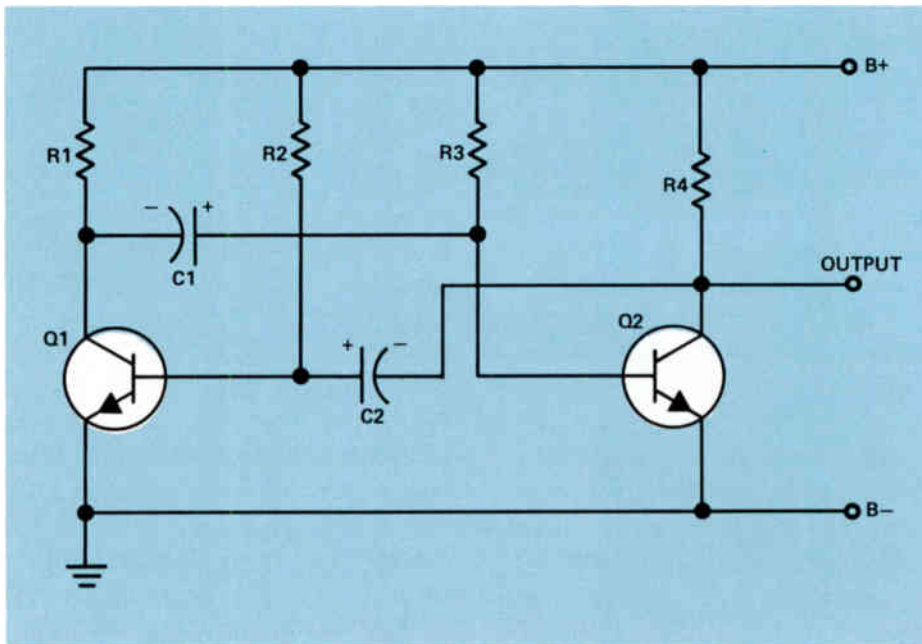
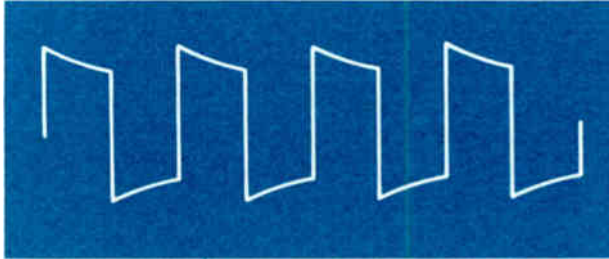
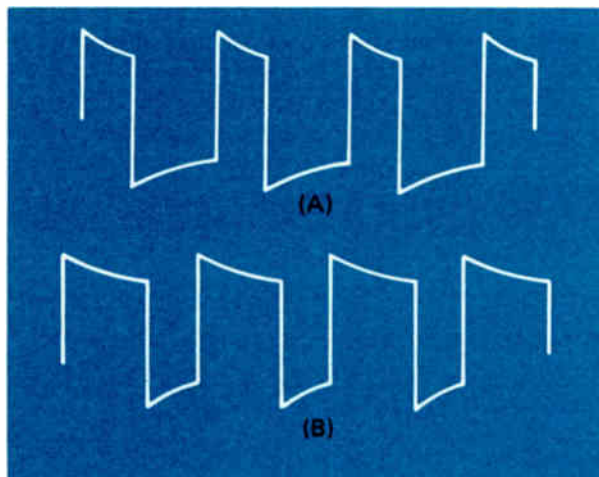

Figure 16. A collector-coupled multivibrator.
Figure 18. Output from a symmetrical multivibrator.
Figure 19. Output from an asymmetrical multivibrator with (A) having a shorter pulse width than (B).
A schematic diagram of a collector-coupled multivibrator is shown in Fig.16. The multivi-
In the circuit shown in Fig.16, one of the transistors will start conducting first or slightly faster than the other. Let's assume that Q1 starts conducting first. As the current through Q1 increases, the voltage drop across R1 will increase. This will cause the voltage at the collector of Q1 to swing in a negative direction. Electrons will flow through the transistor Q1 to the one plate of C1, charging it with the polarity shown. At the same time, electrons leave the positive plate and flow through R3 back to B+. In flowing through R3 they set up a voltage drop across the resistor having a polarity such that the base end is negative. The negative voltage across R3 drives the base of the transistor Q2 negative with respect to the emitter of Q2 so Q2 will be cut off. The transistor will be cut off as long as C1 is charging through R3. It will be developing a voltage across R3 great enough to overcome the forward bias that the power supply is applying through R3 to the base of the transistor.
Multivibrators are called *symmetrical multivibrators* when each transistor conducts for the same length of time. In the circuit shown in Fig.16, this is what happens if C_1 is equal to C_2 and R_2 is equal to R_3 . Under these conditions, Q_1 will conduct for a certain period of time and then be cut off. Q_2 will conduct for an equal period of time while Q_1 is cut off. Under these circumstances, the output from the multivibrator will resemble a waveform shown in Fig.18.
In the circuit shown in Fig.16, C_2 discharging through R_2 keeps Q_1 cut off for a certain period. Similarly, C_1 discharging through R_3 keeps Q_2 cut off. As long as the time constant of C_2 and R_2 is equal to the time constant of C_1 and R_3 , the output from the multivibrator will be symmetrical. However, by changing the time constants of these two networks we can obtain an asymmetrical output as shown in Fig.19. In the circuit shown in Fig.16, if Q_2 conducts longer than Q_1 , we'll have an output like the one shown in Fig.19(A). On the other hand, if Q_1 conducts longer than Q_2 , we can get an output as shown in Fig.19(B).
The value of the RC network used in coupling the transistors in Fig.16 will not only determine the waveshape of the output of the circuit; it will also affect the frequency at which the oscillator operates. For example, if the time constant of C_1 and R_3 or the time constant of C_2 and R_2 is decreased, the frequency at which the oscillator operates will increase. Similarly, if the time constant of the network is increased, the frequency at which the oscillator will operate is decreased. This type of multivibrator can be made to operate over a wide range of frequencies by selecting the time constant of the RC coupled networks.
time it is conducting, and the output will be like Fig.19(B).
- 15 Which components primarily determine the frequency at which the multivibrator shown in Fig.16 operates?
- 16 If C1 equals C2 and R2 equals R3 in the circuit shown in Fig.16, will the output from the multivibrator be symmetrical or asymmetrical?
- 17 In the circuit shown in Fig.16, if the value of C2 and R2 is decreased, how will the frequency of the multivibrator be affected?
- 15 The frequency at which the oscillator shown in Fig.16 operates is determined by C2-R2 and C1-R3.
10. In the circuit in Fig.16, which part affects the frequency of the multivibrator?